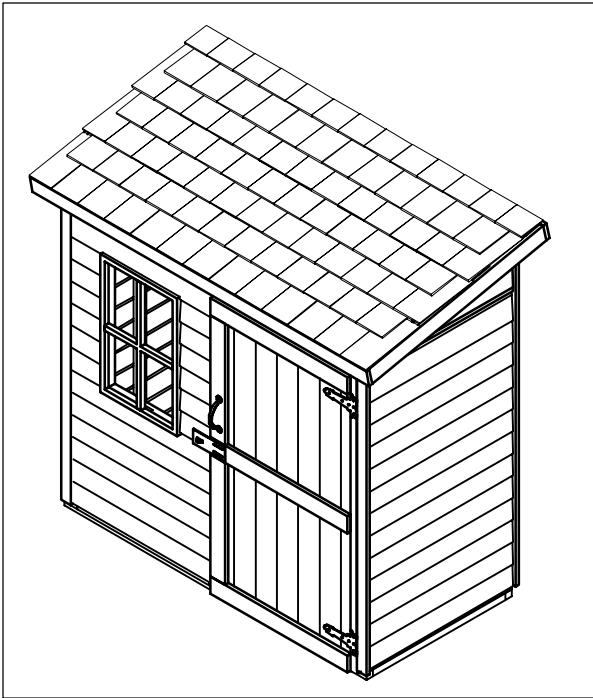

FIGURE S3
- The Door panel and Window panel and the two Short wall panels are interchangeable. Depending on your choice and light conditions you may prefer to place the window in a location of your choice as shown through Figures S3 to S6.